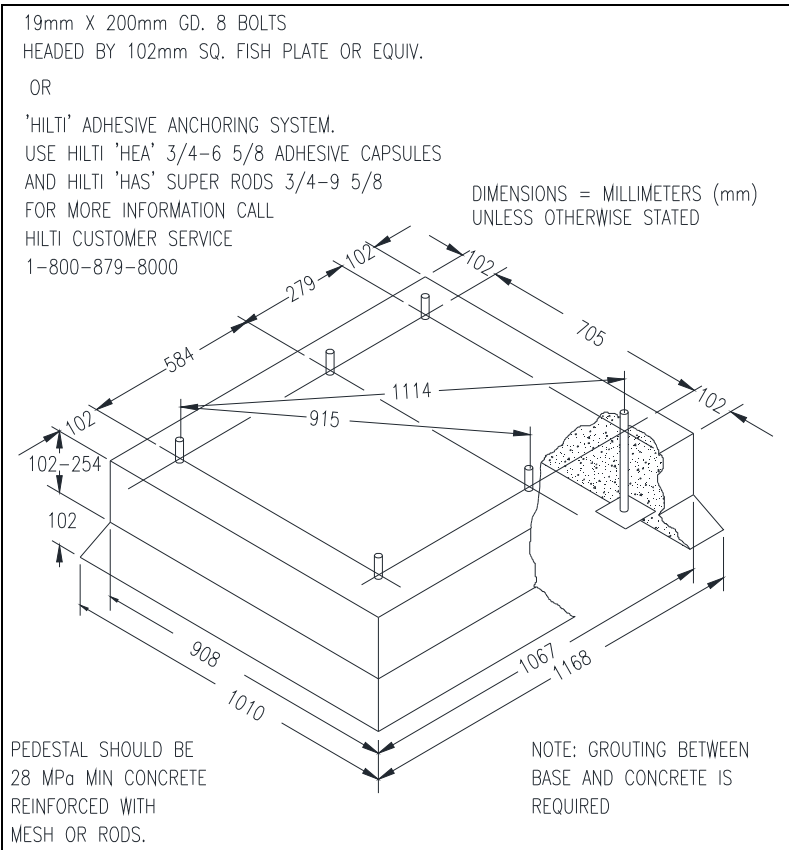
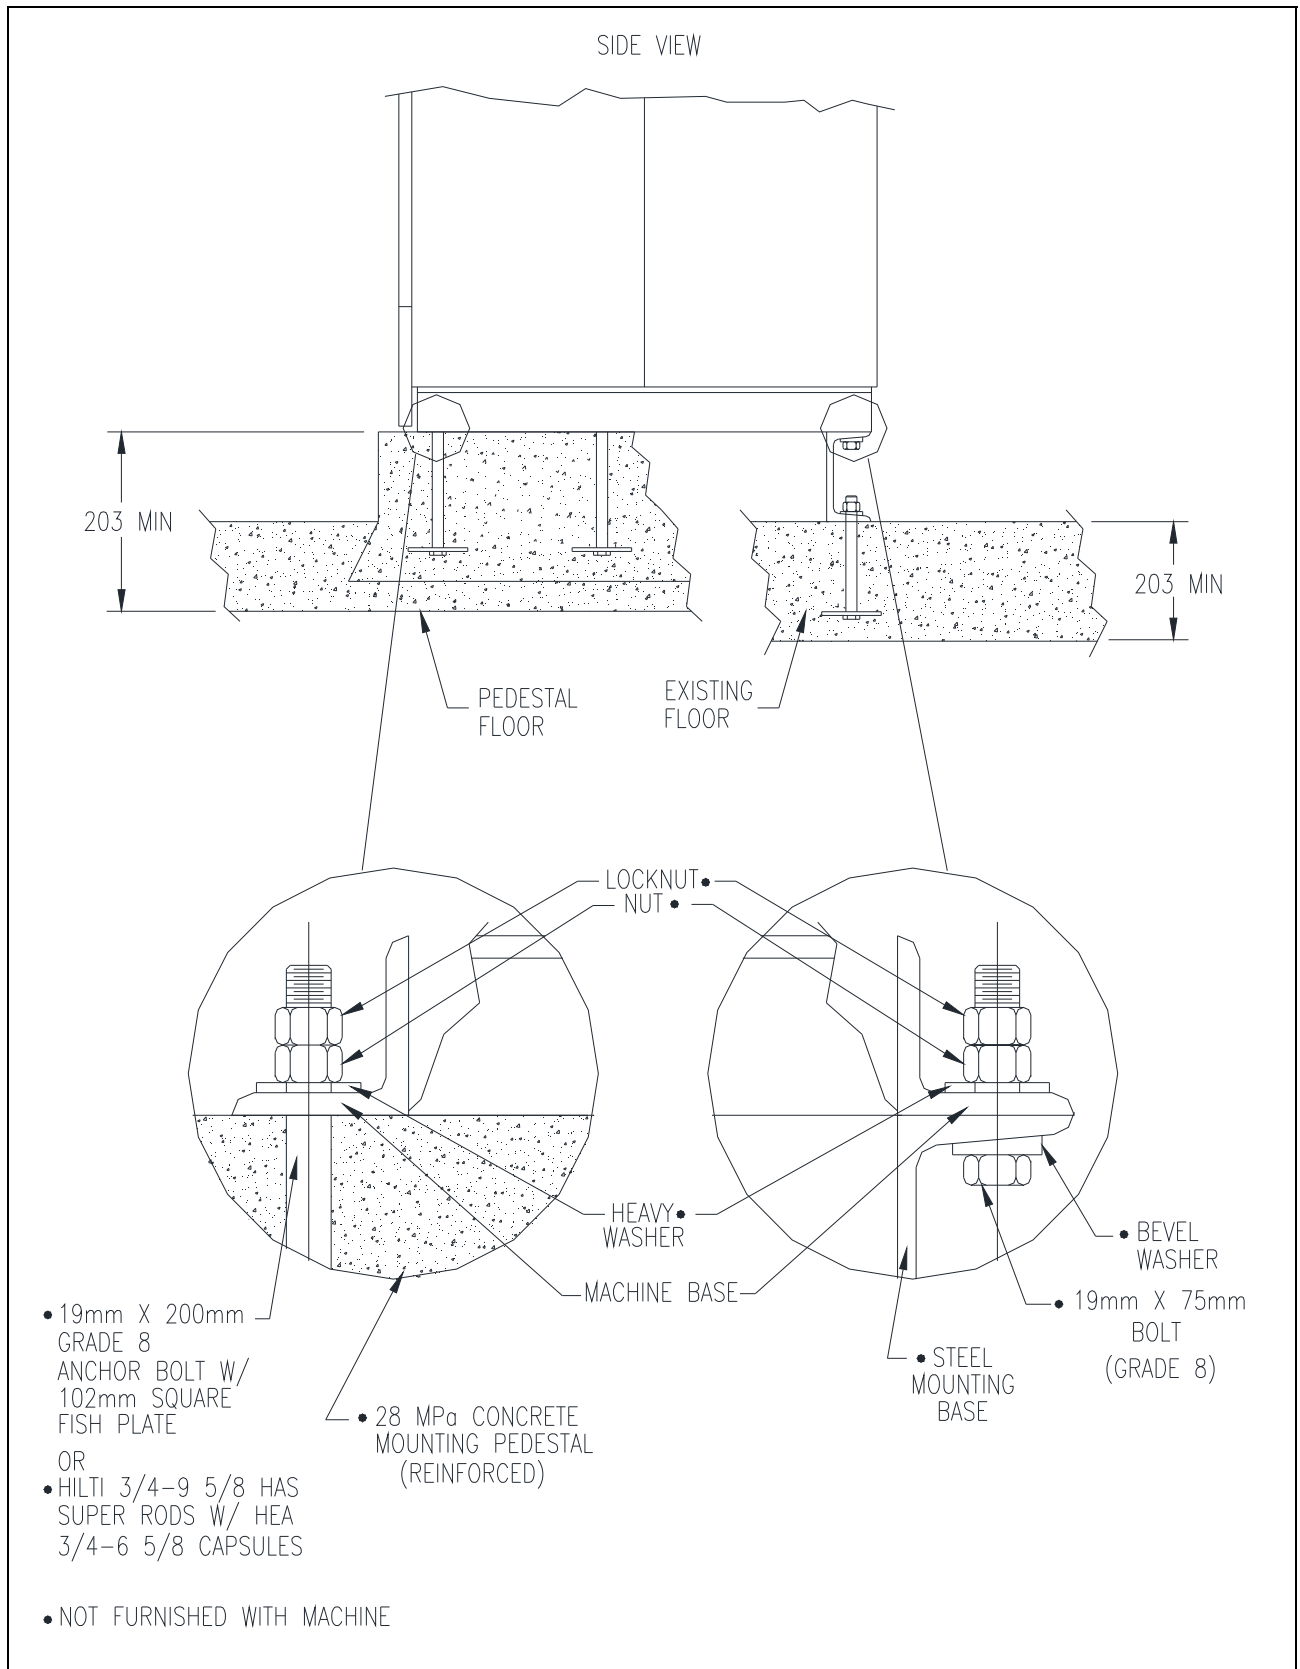
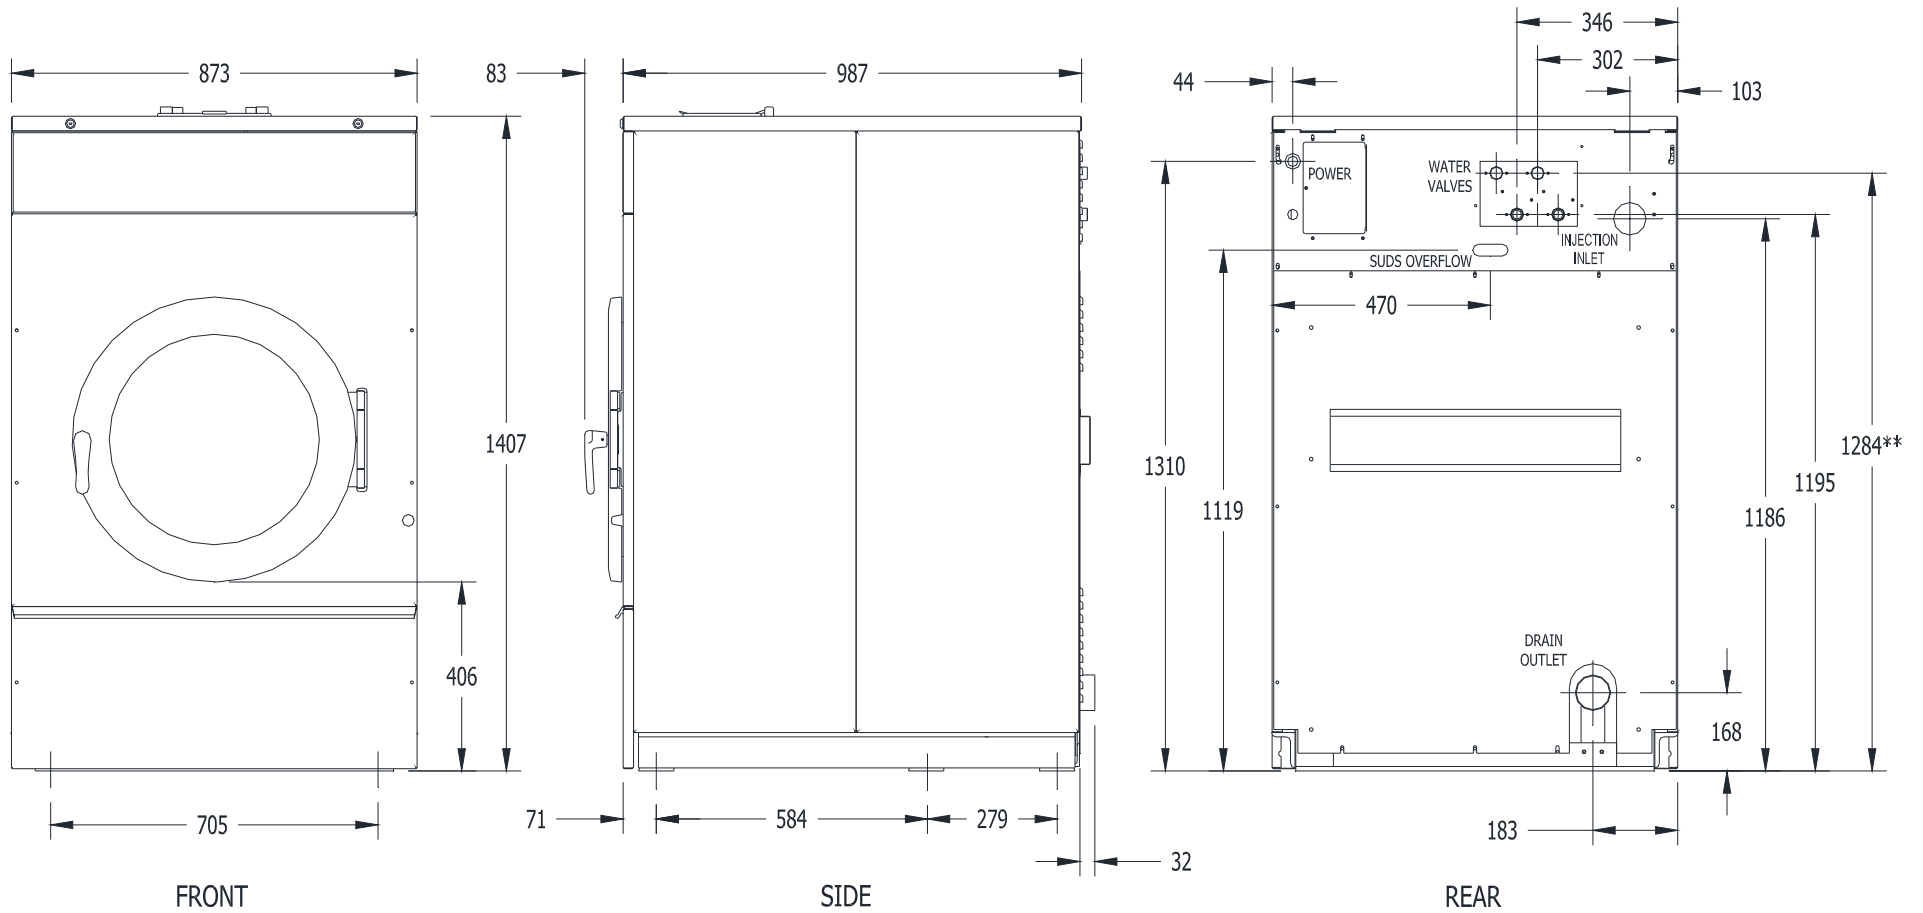

Figure 1-1: Concrete Pedestal Mounting (metric)
Figure 1-3: Machine Mounting Detail (metric)
Figure 1-4: T-900/950 Industrial Washer Mounting Diagram
Refer to Figure 1-1 and Figure 1-3 for recommended concrete pedestal dimensions. Refer to Figure 1-4 for overall machine mounting dimensions.
****NOTE:** Top water valves shown in Figure 1-4 are only on T-950 model.